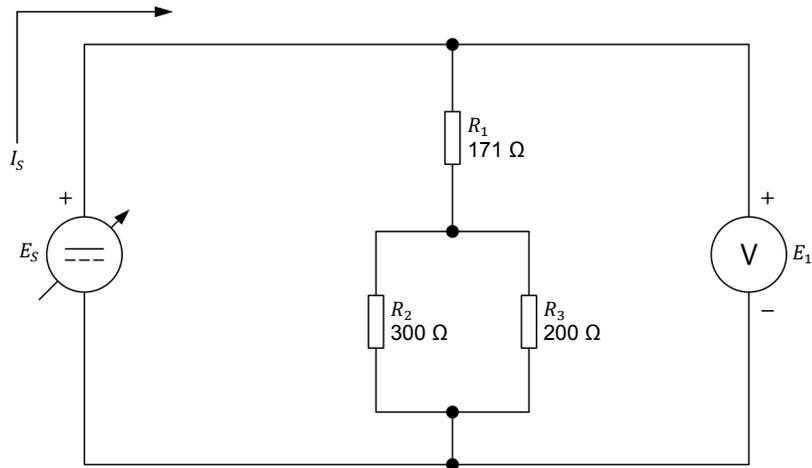

Figure 21. Determining the equivalent resistance of resistors connected in series-parallel (case 1).
15. Set up the series-parallel circuit shown in Figure 21. To obtain the resistor arrangement of Figure 21, make the necessary connection(s) and switch settings on the Resistive Load module.
16. Calculate the equivalent resistance $R_{Eq.}$ of series-parallel resistors R_1 , R_2 , and R_3 in Figure 21.
4. Refer to Figure 21. Assume that resistors R_1 , R_2 , and R_3 have a value of $300\ \Omega$, $171\ \Omega$, and $200\ \Omega$, respectively. If an additional $100\ \Omega$ resistor is connected across these resistors, will the equivalent resistance increase, decrease, or remain the same as before? Why?